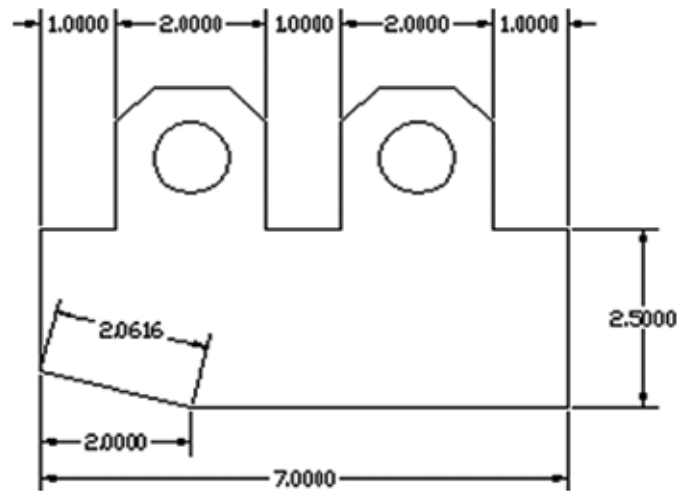

Figure 4.4
If you are comfortable with aligned dimensions, let's use the “continue” dimension command to make dimensioning easy across the top of the drawing. Note Figure 4.4.
21. **Pick** each of the corresponding points shown in Figure 4.4 and watch the machine dimension each area for you.